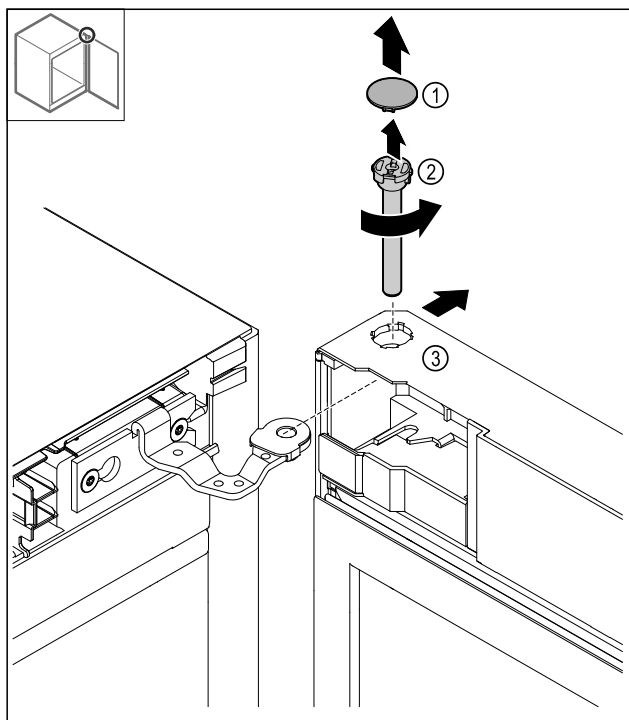

Fig. 13
- ▶ Take off the Fig. 13 (1) cover.
- ▶ Unscrew the pin Fig. 13 (2) counterclockwise and pull it out.
- ▶ Tilt the door Fig. 13 (3) slightly.